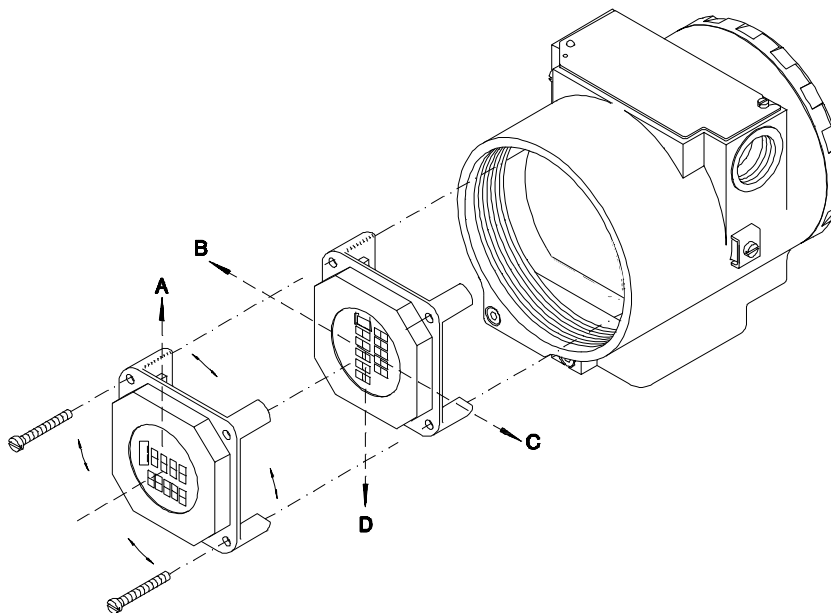

Figure 4.1 - Four Possible Positions of the Display
- Put input board (7) into housing (9).
- Anchor input board with its screws (6).
- Put main board (5) into the housing, ensuring all inter connecting pins are connected.
- Put display (4) into the housing, observing the four mounting positions (See *Figure 4.1 - Four Possible Positions of the Display*) " " should point in the direction desired as UP.
- Anchor main board and display with their screws (3).
- Fit the cover (1) and lock it using the locking screw (8).